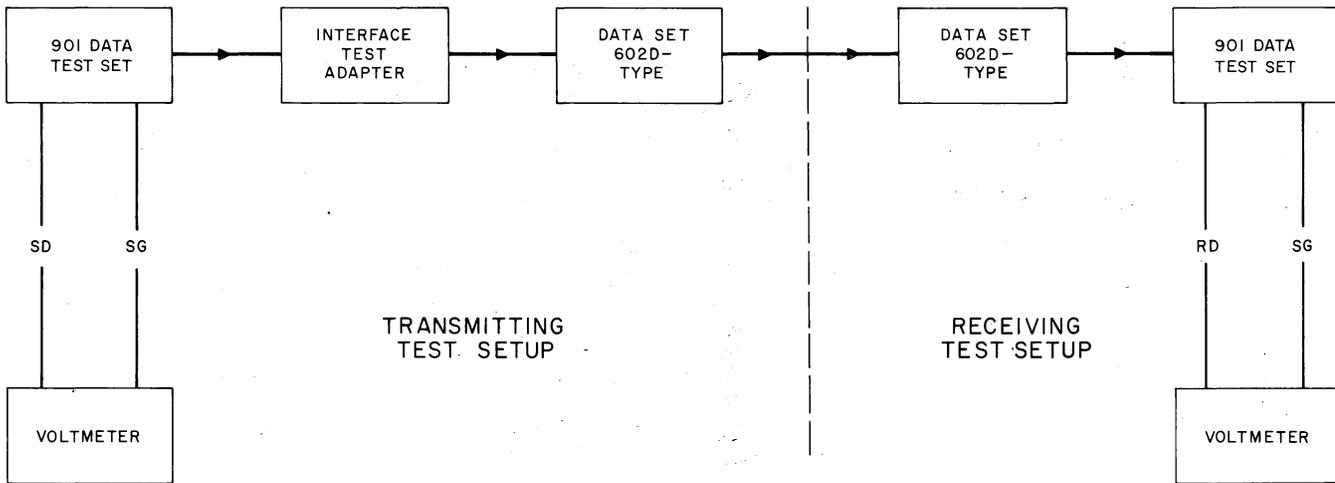

Fig. 2—Block Diagram, End-to-End Test, Interface Test Adapter Method
4.01 A block diagram of the end-to-end test using the interface test adapter method is shown in Fig. 2. The purpose of this test is to check the linearity of the data system.